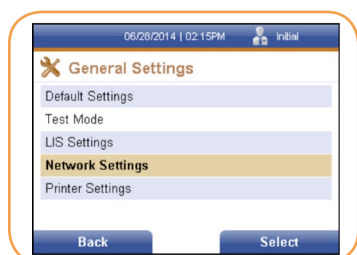

FIGURE 24
5. Once all information has been entered, press the right soft key to accept the information, or the left soft key to discard any changes made. Either selection will return the user to the previous menu (Figure 24).